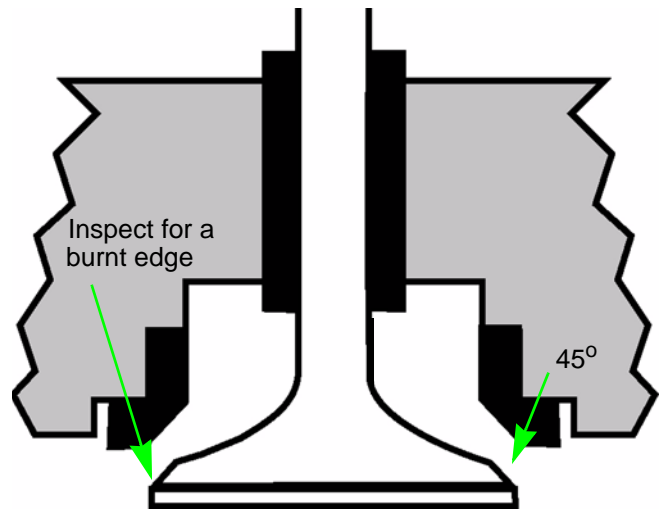

**Figure 9.10**
6. Inspect the valve seat. See Figure 9.10.